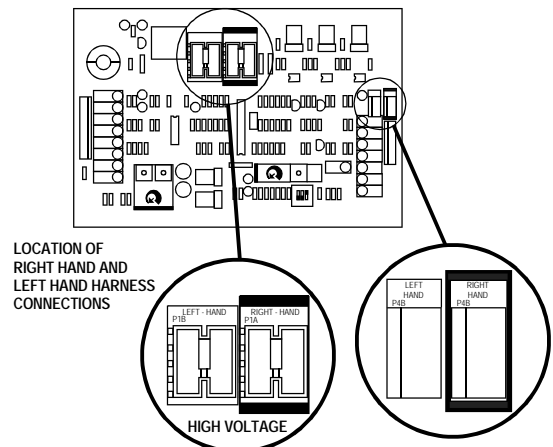

Figure 7
▲ To convert operator to left hand operation, make certain the power switch is off, and locate 8-pin motor connection plug in center of control board. Squeeze locking tabs to remove connector from "**RIGHT HAND**" socket, and insert into "**LEFT HAND**" socket. Locate 3-position limit switch harness on edge of control board. Move connector to 3-position pin location marked "**LEFT HAND**". Operator is now setup for a left hand installation (See Fig. 7).
- (5.) If direction of travel is wrong, turn off main power and recheck location of LEFT/RIGHT plugs (Fig. 7 Page 7).